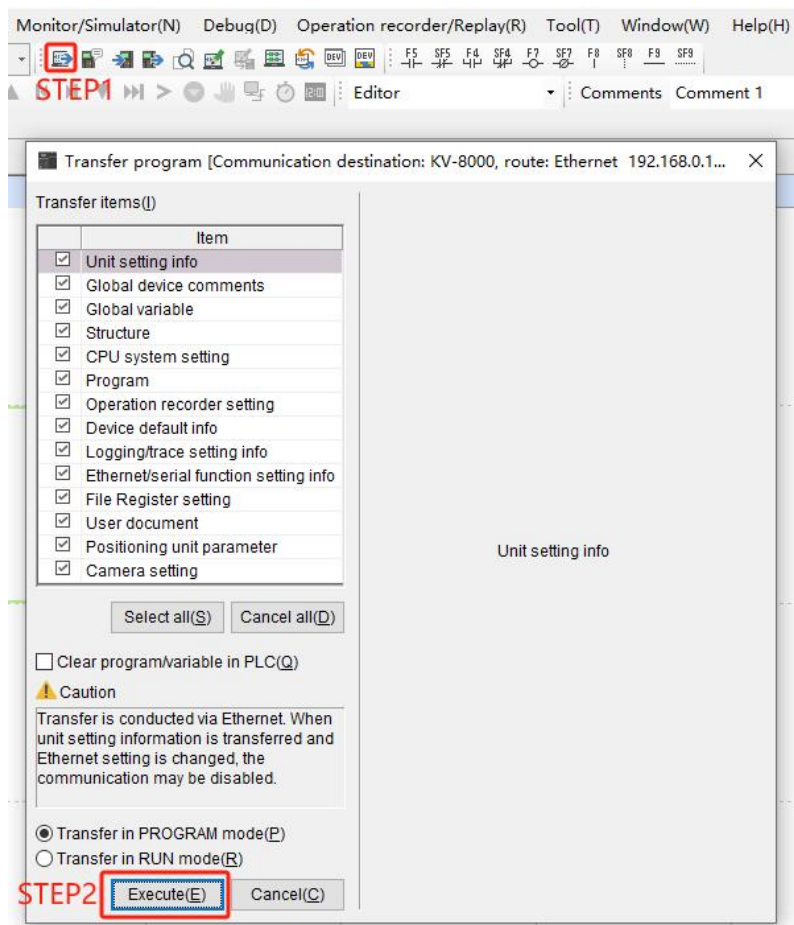

Figure 4-1-23
- As shown in Figure 4-1-23, perform PLC transmission download and click "Yes" in sequence.